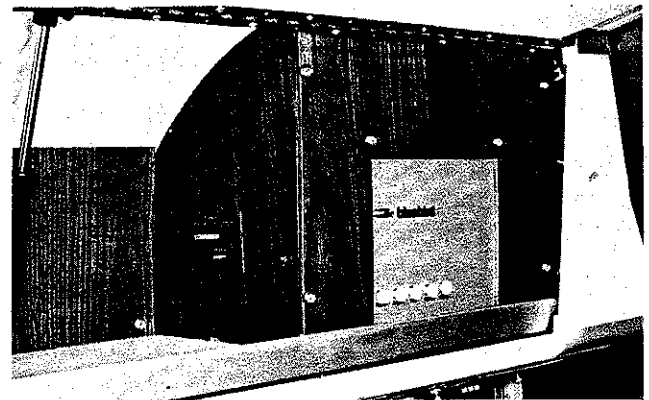

Figure 2-17. Picture Control Panel
- Picture brightness and color adjustment panel, located in the compartment above the CCTV controls, figure 2-17.